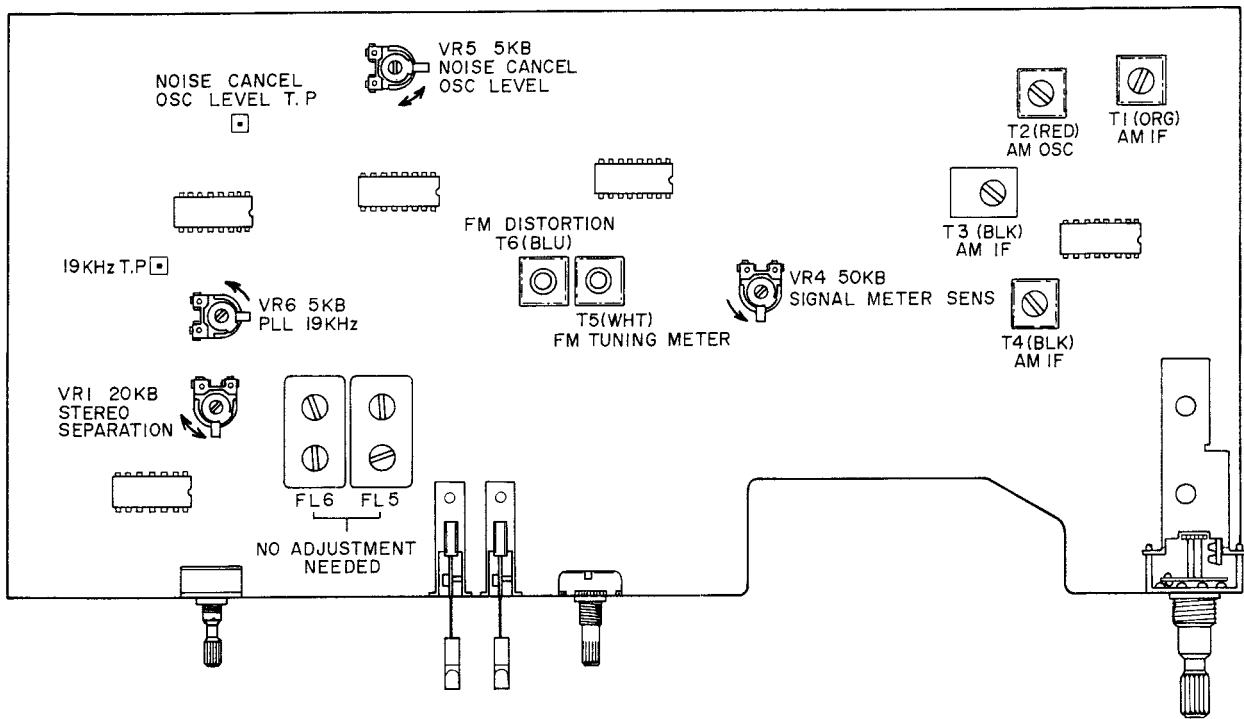

Fig. 23 Tuner P.C Board T3-6501A
1. FM TUNER SECTION ADJUSTMENT (Refer to Figs. 23, 24)
2. AM TUNER SECTION ADJUSTMENT (Refer to Figs. 23, 24 and 25)